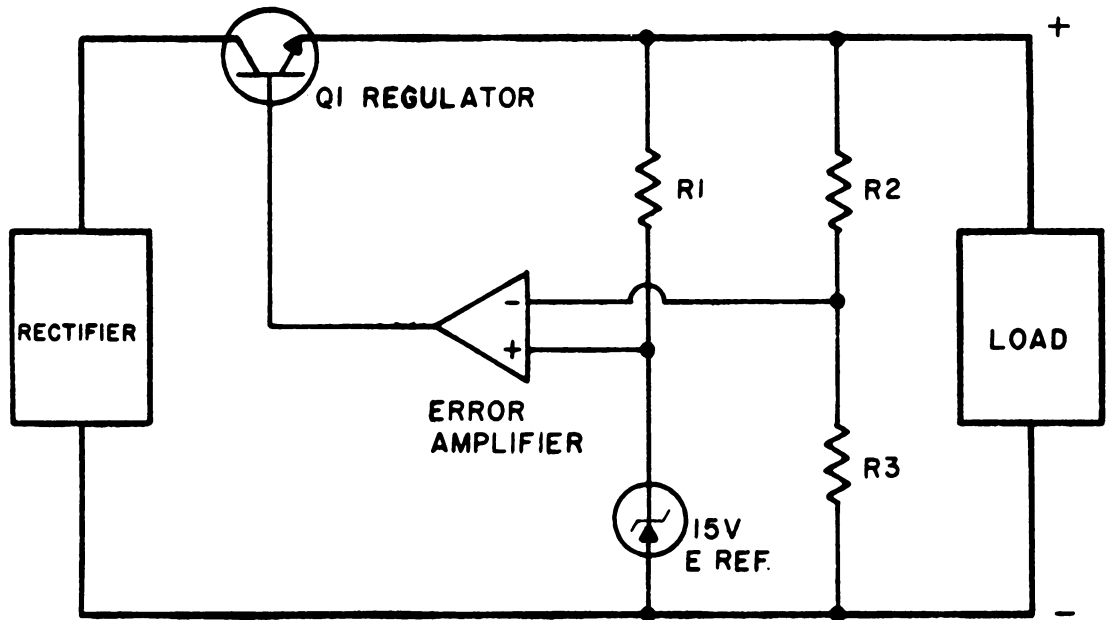
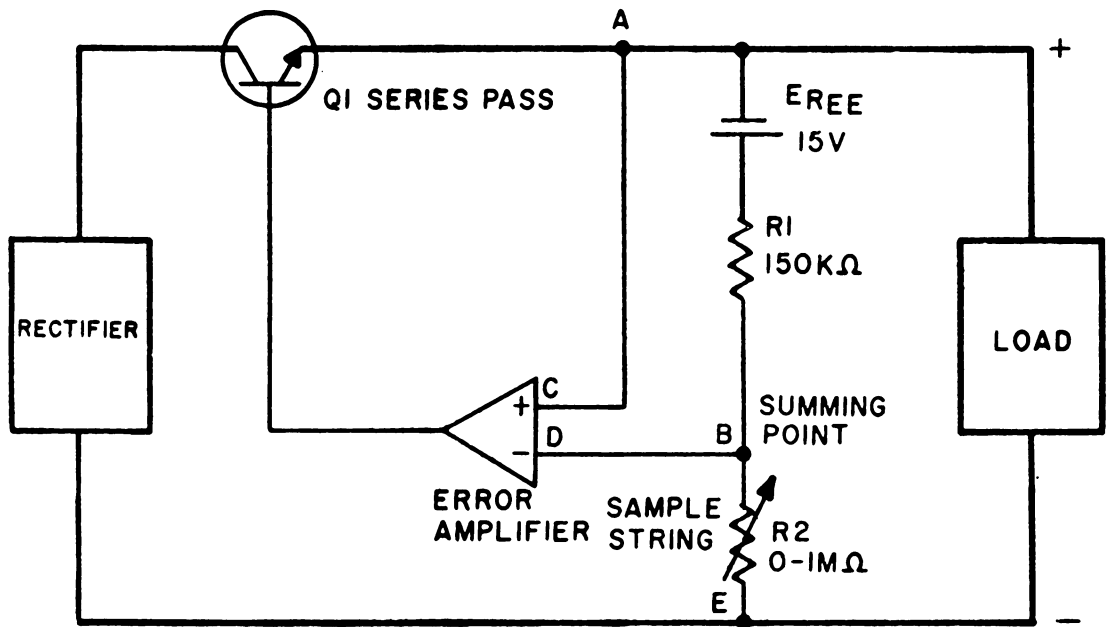

Figure 2-1. Conventional series regulated power supply.
Figure 2-2. 332 simplified voltage control circuitry.
**332 ( ) DC Voltage Standard.** Refer to figure 2-1 for the following explanation. In a conventional series-regulated power supply, the stable output is maintained by comparing a portion of the output voltage (voltage developed across R3) to a very stable reference voltage (E reference). If there is a difference in these two voltages, the difference (error) is amplified by the error amplifier. The output from the error amplifier varies the conduction of Q1 and consequently the voltage applied to the load. The output voltage will be changed until the voltage developed across R3 is equal to the reference voltage. Thus, a constant output is maintained by varying the conduction of Q1.
Refer to figure 2-2 for the following explanation. Basically, the 332 is a series-regulated power supply with a variable output. Notice that the reference voltage is not applied directly to the error amplifier as it is in figure 2-1. Because the reference voltage is referenced to the voltage applied to the load, a constant current flows through resistors R1 and R2.
Using the values of R1 and R2 as shown in figure 2-2, the voltage that could be applied to the load would range from 0 to 100 volts. The maximum voltage which could be applied to the load would be increased by changing the value of R1, providing the rectifier circuit was capable of producing the maximum voltage desired. For example, if R1 was decreased to 15 kilohms, the voltage that could be applied to the load would range from 0 to 1000 volts. The constant current flow through R1 and R2 would now be 1 milliamperes.
1. The reference voltage for the error amplifier in figure 2-2 is applied to point \_\_\_\_\_.